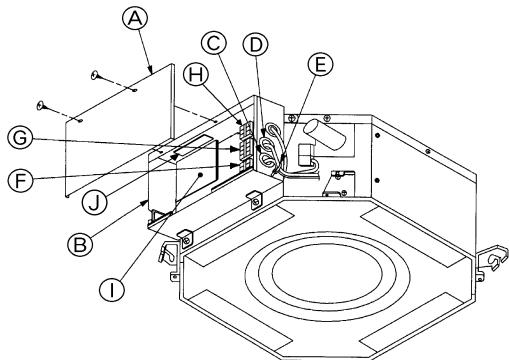

Fig. 4-1
4.1. Indoor unit (Fig. 4-1)
- **Selecting non-fuse breaker (NF) or earth leakage breaker (NV).**